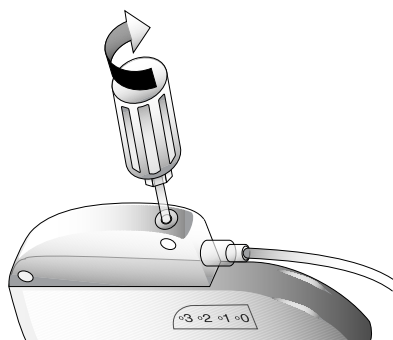

Figure 4. Tighten the setscrew in the self-sealing grommet by turning clockwise until the torque wrench clicks.
5. Fully insert the torque wrench into the self-sealing grommet of the connector block and tighten the setscrew by turning clockwise until the torque wrench clicks (Figure 4).
Note: The torque wrench must be oriented to the same angle as the setscrew (Figure 4).